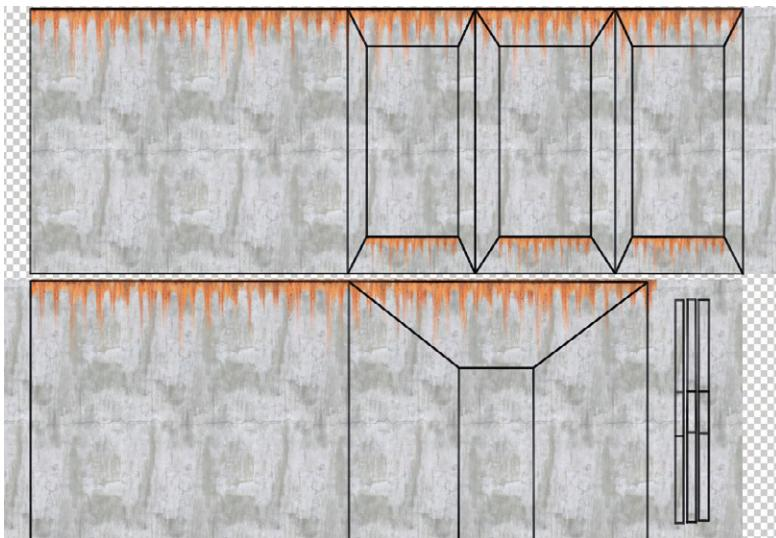

FIG. 6.10 Drips.
Step 23: Find and download a good “leaking” texture. Figure 6.10 shows the result of the leaking texture I used from CG Texture (and linked to on the supporting website). The key to this nicely prepared decal is that it